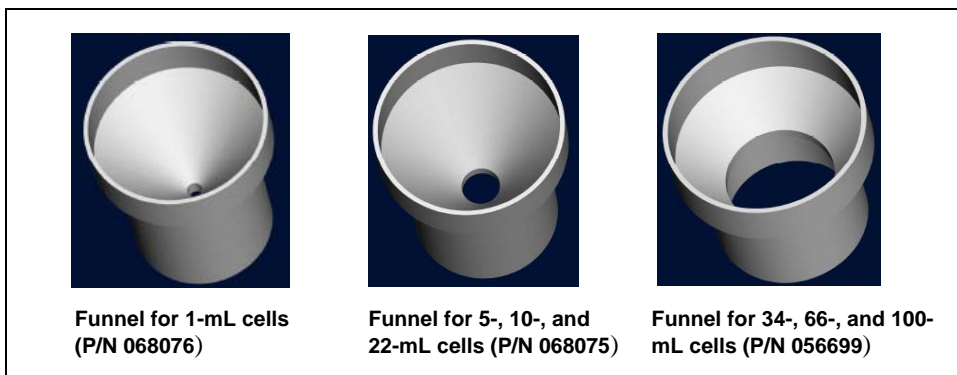

Figure 3-7. Sample Funnels
1. Carefully load the sample into the top of the cell, using the funnel provided in the Dionex ASE 350 Startup Kit. To accommodate different sample cell sizes, three funnels (with different inner diameters) are available (see Figure 3-7).